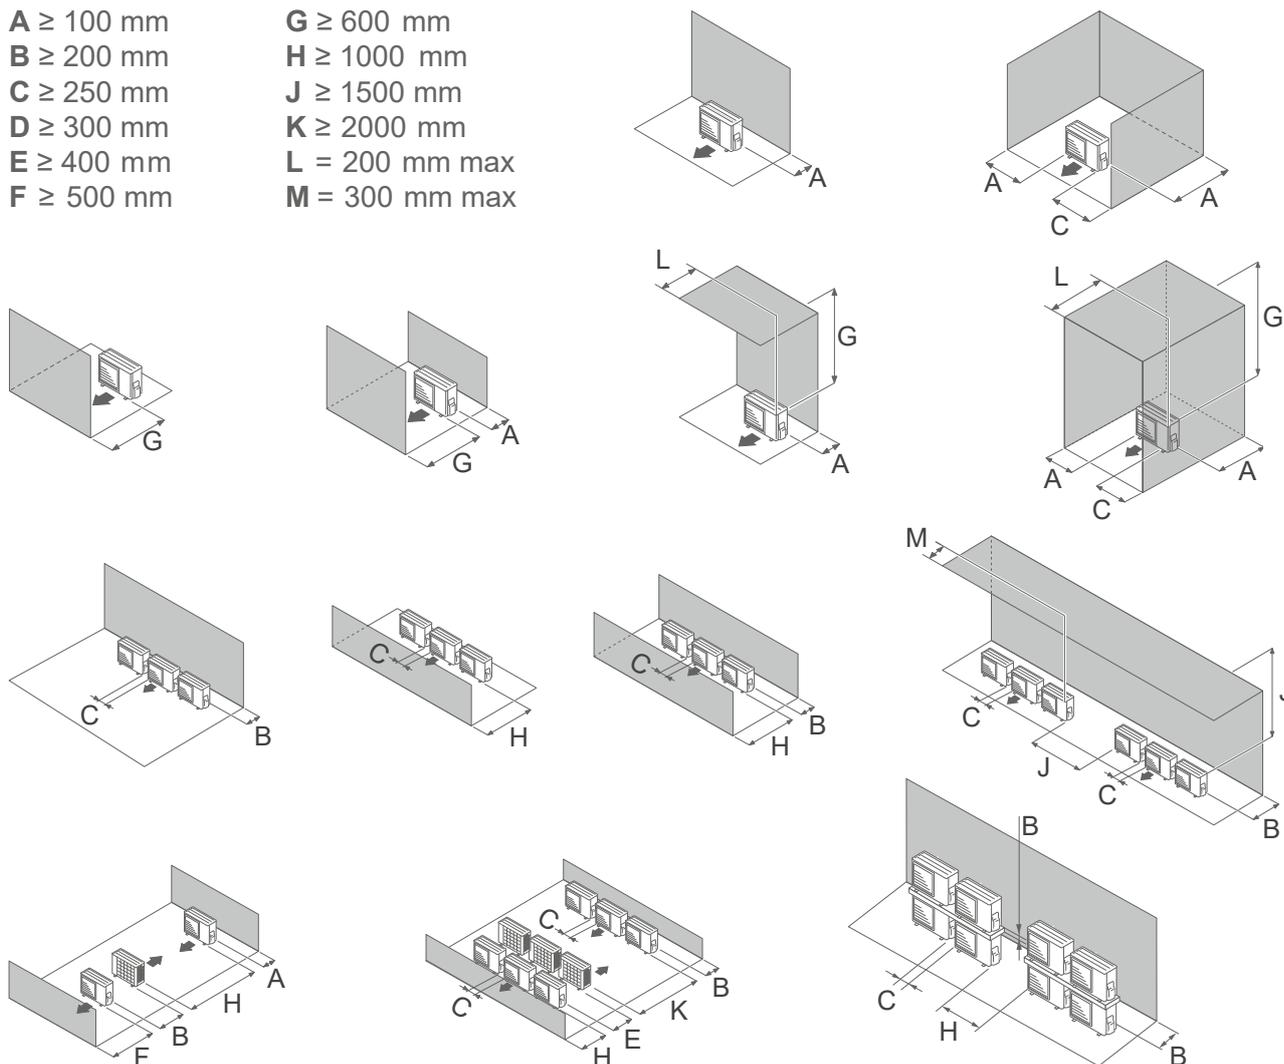

fig. 15 - Minimum installation clearance requirements around the outdoor unit
- The appliance must be fully accessible for installation works and future maintenance works (*fig. 15, page 17*).